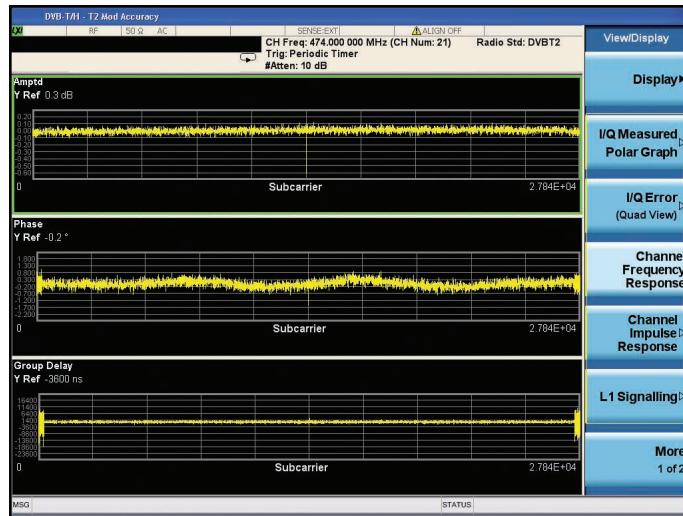

Figure 27. Channel frequency response view
- **Channel frequency response view** (Figure 27):
View the channel frequency response (Figure 27)	[View/Display] {Channel Frequency Response}